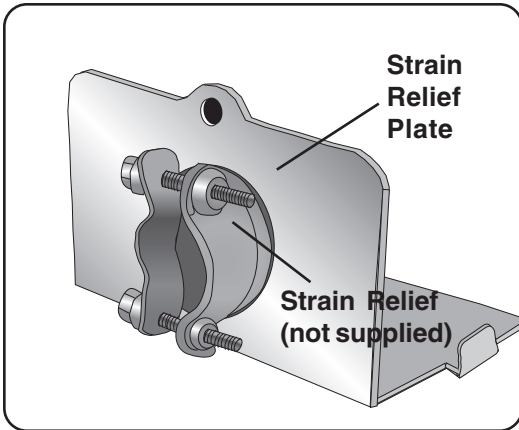

Figure 26
- 1) Retrieve the strain relief plate, and install a strain relief (not supplied) into the opening on the strain relief plate. NOTE: Orient the strain relief as shown in Figure 26.